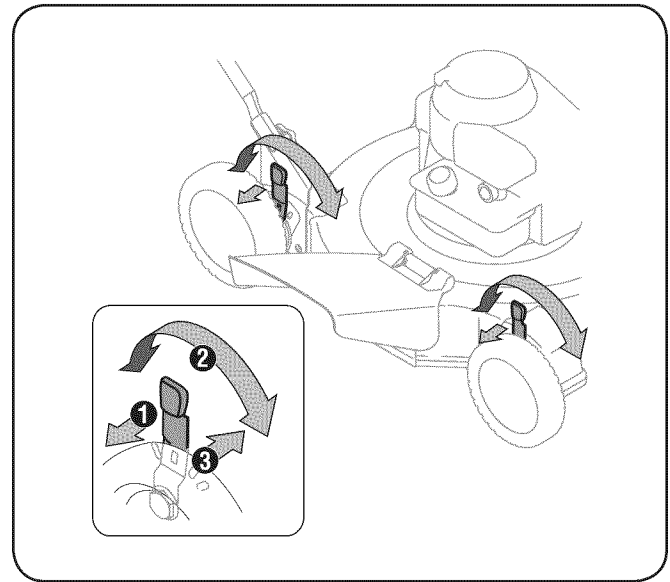

Figure 3-10
2. Slide the lever assembly to desired position to change the cutting height. See Fig. 3-10.